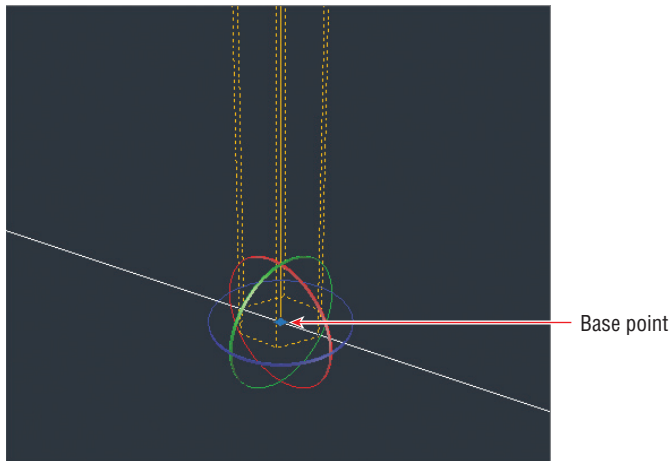

FIGURE 17.23 3D rotate gizmo displaying three colored rings representing the x-, y-, and z-axes
6. Select the ribbon's Home tab, and click the 3D Rotate tool in the Modify panel. Select the mast, and press Enter. Click the lower end-point of the vertical line, which is at the center of the mast, to act as the base point. A 3D rotate gizmo appears (see Figure 17.23).
8. Press the spacebar to repeat 3DROTATE; then select the mast and press Enter. Click the same base point shown in Figure 17.23, and click the green axis ring to select the y-axis. Type **4**, and press Enter.